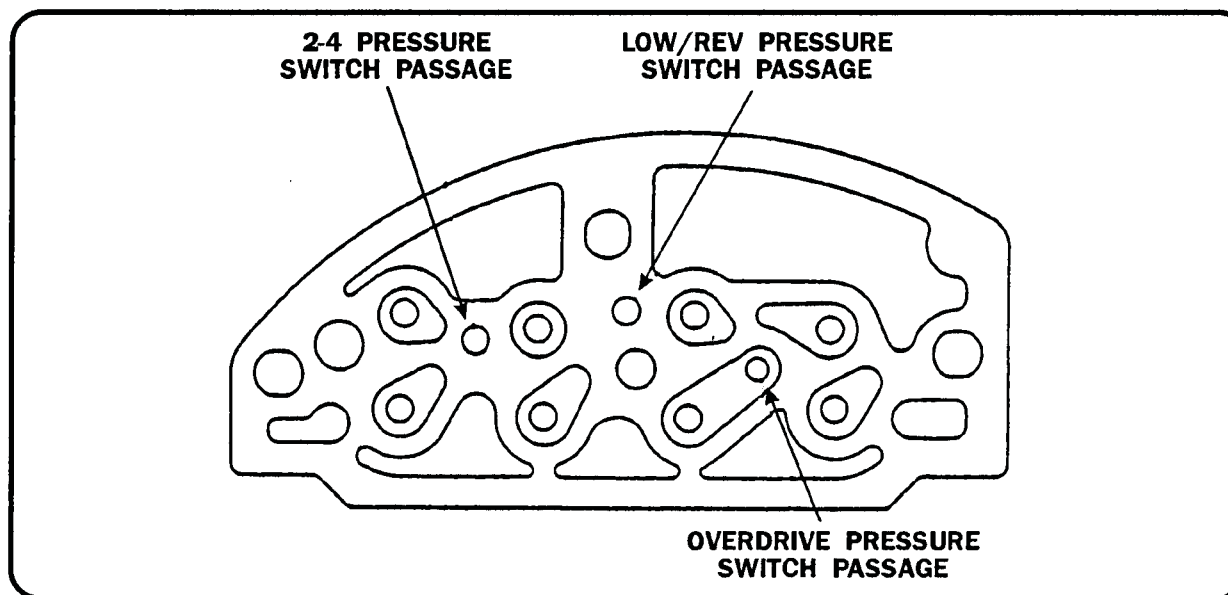

Figure 3
**PRESSURE SWITCHES** - All three pressure switches are tested with 50 psi of air through the passages shown in figure 3. With no air applied to the switch, the ohmmeter should read no continuity. With the air applied, the ohmmeter should read 0 ohms.